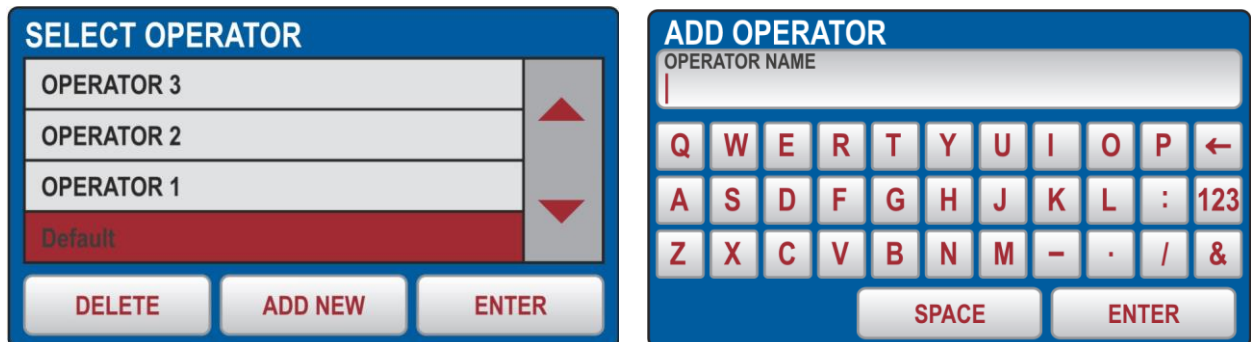

Fig. 8 : OPERATOR Menu
1. Open OPERATOR menu and press the **ADD NEW** touch-screen key. The screen of Fig. 8 – right side will be shown